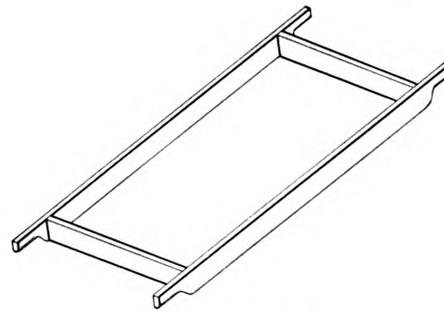

Fig. 5.—Measuring Box for Gravel.
- One measuring box for gravel (see Fig. 5) of a capacity for one batch of concrete.